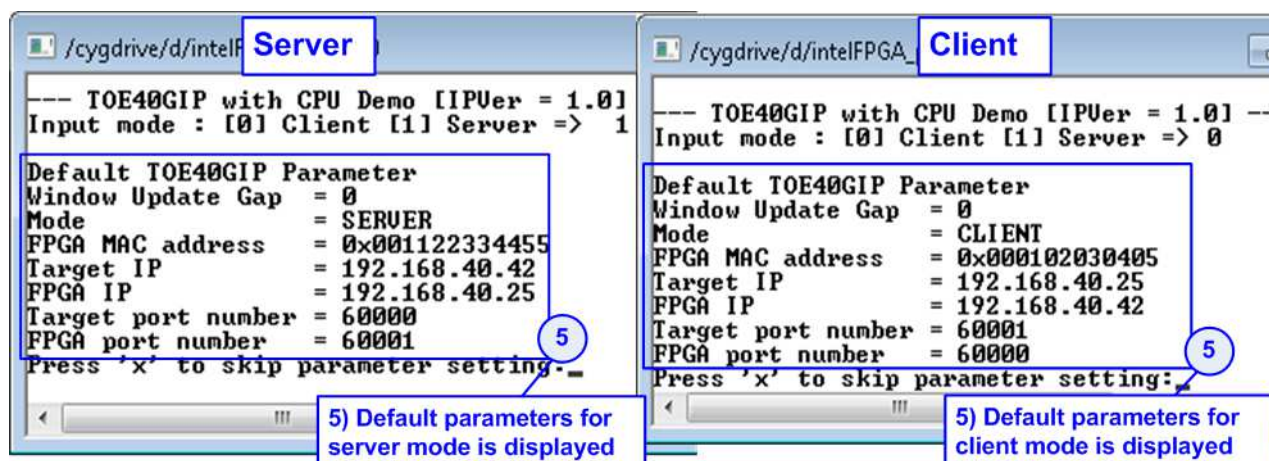

Figure 7-4 Default parameters of Server/Client mode
- 5) Default parameters for server or client are displayed on the console, as shown in Figure 7-4.